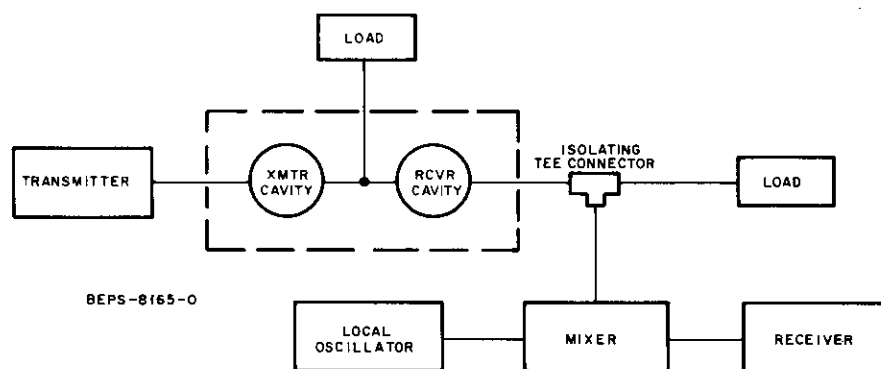

Figure 10. Method 2 Receiver Branch Reject Test Set-Up
Step 10. Connect the equipment as shown in Figure 10.
Step 8. Connect the equipment as shown in Figure 10.